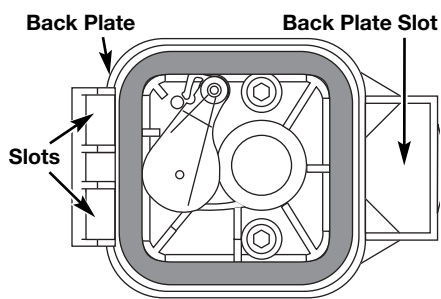

Fig. 31
6. Replace the filter (Fig. 31).
7. Reinstall the air filter cover. Position the hooks on the left side of the air filter cover into the slots at the left side of the back plate (Fig. 31).